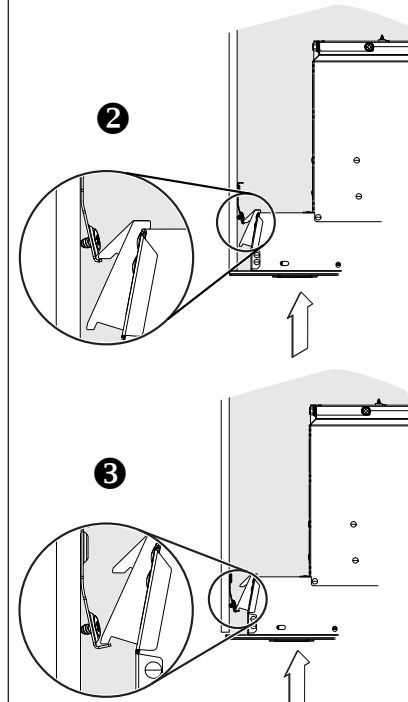

FIG. 23
2. Insert the unit in the cabinet, until you feel a 'click' from both sides of the unit, confirming that the Ease of Install hooks rest on the top of the cabinet bottom sides 1, or cabinet brackets 2 or 3 (FIG. 23). Move the unit from left to right, from rear to front and up to ensure the Ease of Install hooks are retaining the unit inside the cabinet. NOTE: The unit will be protruding below the cabinetry until tightened.